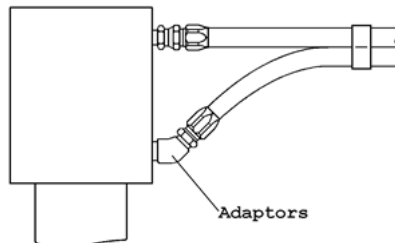

FIG 21.
- i. To join a hose fitting to a component. (Fig 21)